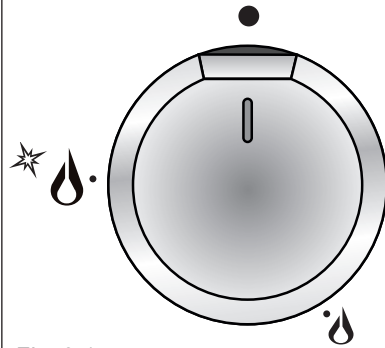
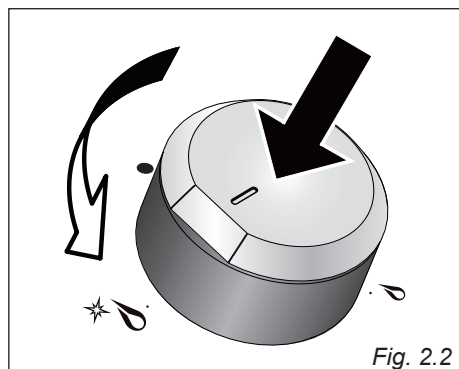

Fig. 2.1
Fig. 2.2
Gas flow to the burners is adjusted by turning the knobs (illustrated in fig. 2.1) which control the safety valves.
1. Press in the corresponding knob and turn counter-clockwise (fig. 2.2) to the full flame position marked by the  symbol (fig. 2.1); hold the knob in until the flame has been lit.